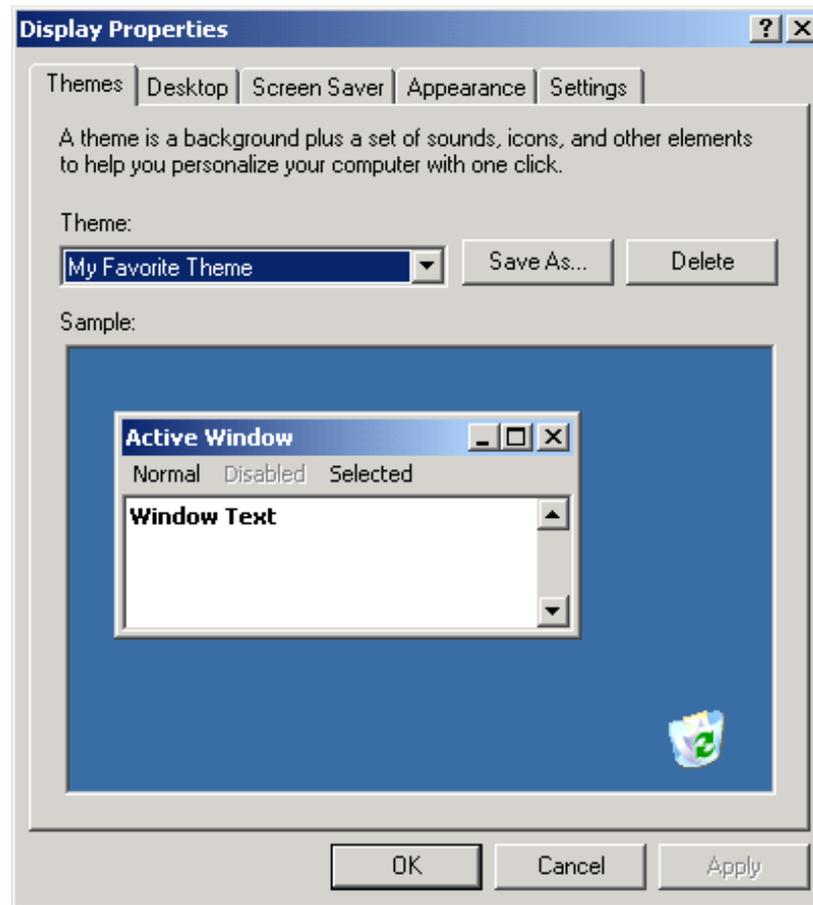

FIGURE 157. My Favorite Theme
5. The system shows that “My Favorite Theme” is the selected one as in Figure 157.